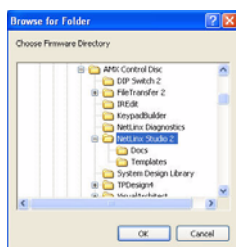

FIG. 108 Browse for Folder window
8. Select the appropriate Kit file from within the Browse for Folder window (FIG. 108).